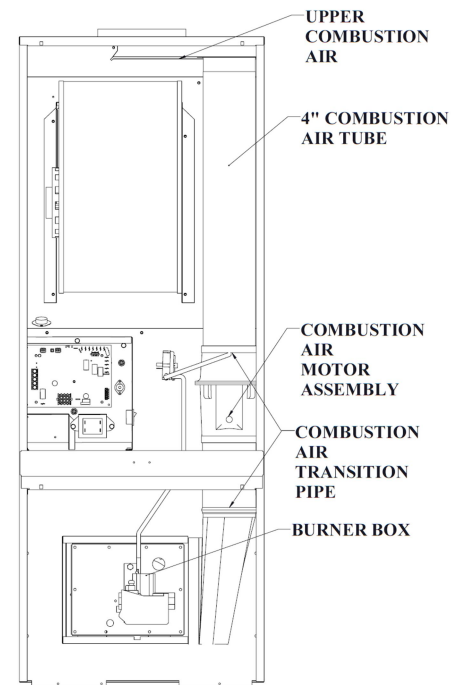

Figure 16: Combustion Air Assembly
11. Remove the four (4) screws that secure the combustion air baffles to the burner box / vestibule panel. Refer to Figure 16.
12. Remove the four (4) remaining screws that secure the burner box to the vestibule panel. Be careful not to damage the gasket on the back side of the burner box. If the gasket is damaged, replace it. There must be a good seal between the burner box and the vestibule panel for the furnace to operate properly. Refer to Figure 16.
13. Remove the two (2) Phillips screws the secure the bottom of the combustion air assembly to the 4" pipe.
14. Grab the burner box and twist slightly while pulling down to remove the four inch (4") pipe from the combustion air housing. Refer to Figure 16.
16. Remove the two (2) screws in the top of the combustion air housing, then, remove the assembly from the upper four inch (4") pipe. Refer to Figure 16.
18. Place the round black gasket on the four inch (4") upper pipe so that the pipe sits inside the groove in the gasket, then, slide the combustion air housing into the gasket and secure the housing to the four inch (4") pipe with the two (2) screws. Make sure the gasket is properly inserted into the pipe so there is a good seal at the pipe and around the combustion air housing. Refer to Figure 16.
19. Place the round black gasket on the four inch (4") lower pipe so that the pipe sits inside the groove in the gasket, then, slide the combustion air housing into the gasket and secure the housing to the four inch (4") pipe with the two (2) screws. Make sure the gasket is properly inserted into the pipe so there is a good seal at the pipe and around the combustion air housing. Refer to Figure 16.
20. Place the gasket on the back side of the burner box so it is in between the burner box and the vestibule panel. If the gasket is damaged, replace it. There must be a good seal between the burner box and the vestibule panel for the furnace to operate properly. Install the four (4) screws that were removed in step 11 and tighten until secure.
21. Place the combustion air baffles into the burner box and use the four (4) screws that were removed in step 10 to secure the baffles to the burner box.
22. Connect the ¼" tube to the nipple located on the top right side of the burner box. Refer to Figure 16.
23. Install the burner assembly and secure the assembly to the burner box with the ten (10) screws that were removed in step 8.
24. Connect the two (2) ¼" male and female spade terminals for the igniter. The igniter has the two (2) white wires with the high temperature insulation.
25. Connect the ¼" male and female spade terminal for the flame sensor. The flame sensor has one (1) yellow wire.